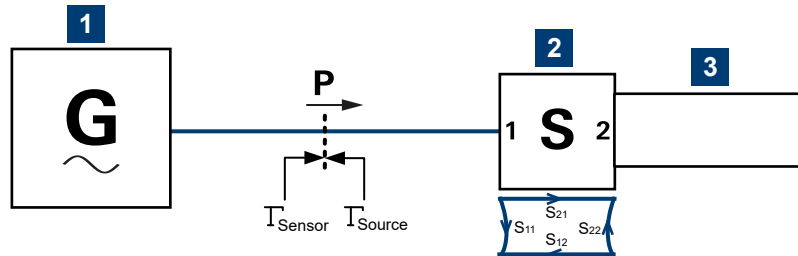

Figure 8-6: Correction of interactions between signal source, S-parameter device and sensor
The interaction between the complex reflection coefficient Γ_{sensor} of the sensor and the reflection of port 2 is expressed by s_{22} , see Figure 8-6. If the S-parameter correction is enabled, this interaction is always considered, regardless whether gamma correction is performed or not.
- S-parameter device if the S-parameter correction is enabled, S11 in Figure 8-6.